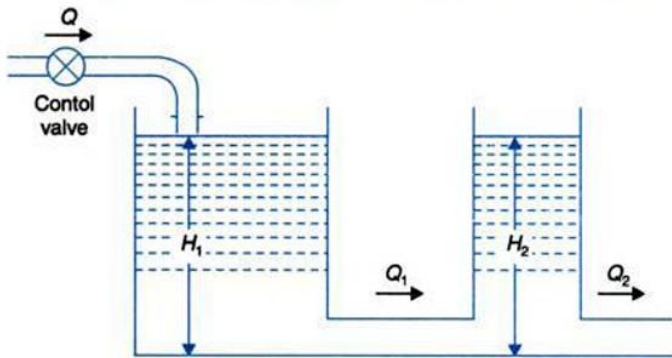

Fig. Q2
2. For the liquid level system of two interacting tanks shown in Fig. Q2, the governing equations can be written as follows. Draw the signal flow graph, and then using Mason's gain formula, find closed loop transfer function $G(s) = \Delta Q_2(s)/\Delta Q(s)$.